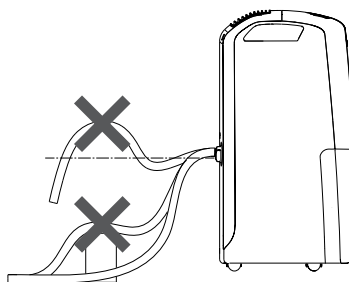

fig. 5
- 3) Make sure the end of the hose is no higher than the spout (Fig. 3) or water could remain in the tank. Make sure there are no kinks in the hose (Fig. 5).